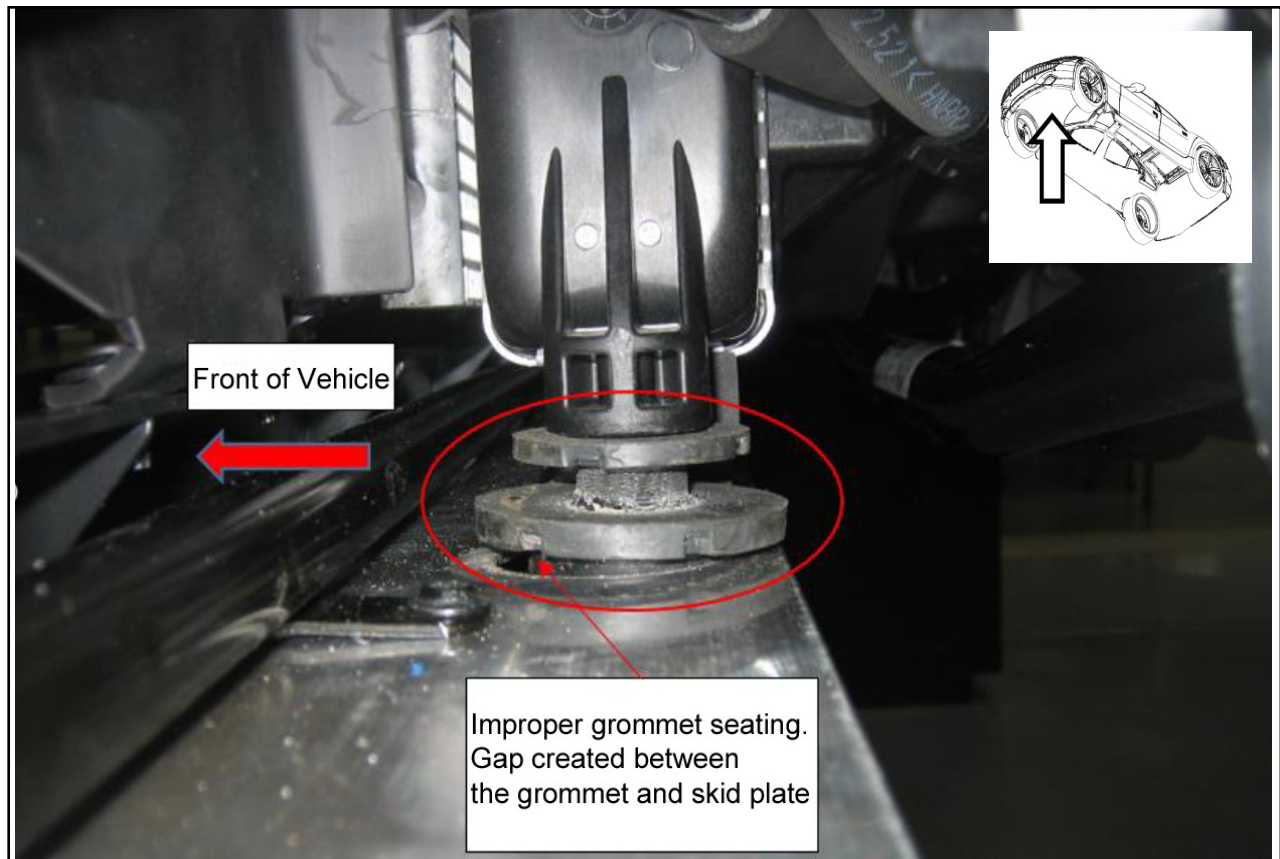

fig.1a
- Verify there is no gap between grommet flange and skid plate surface (fig 1a)